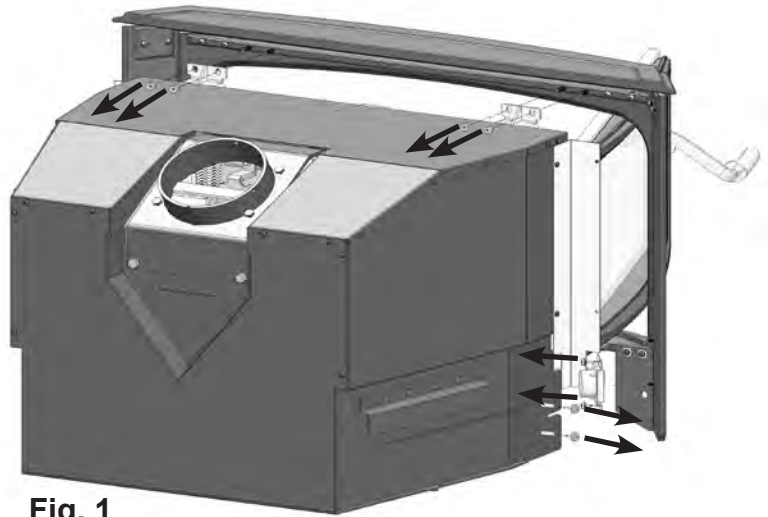

Fig. 1
1. Disconnect the two rheostat wires from the front cast assembly. Open the loading door. Remove eight 1/4-20 nuts from top brackets and side posts with a 7/16" wrench. Remove two 10-24 nuts from analog cast therm using a 3/8" wrench. Slide the cast assembly away from firebox and set aside. Position firebox in front of fireplace opening (**Fig. 1**). To re-attach the front cast assembly simply reverse these steps.